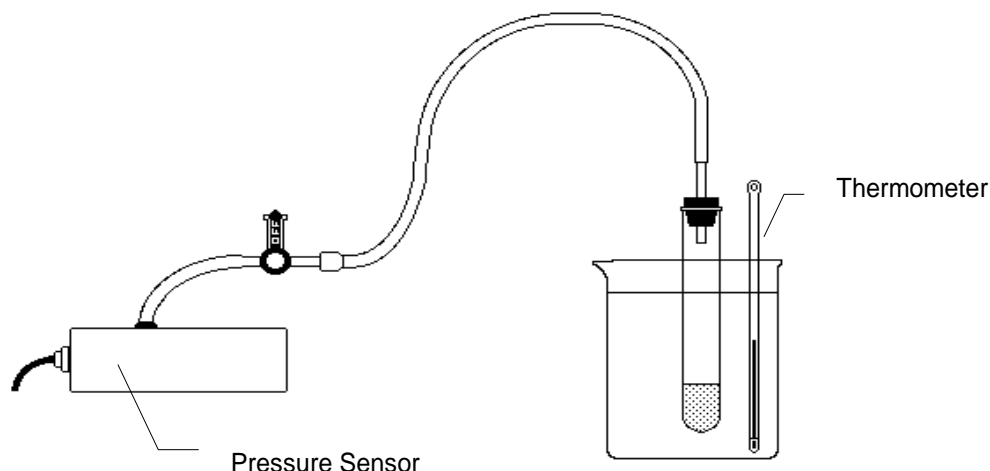

Figure 3. Experimental Set-up with reaction vessel in a water bath maintained at a constant temperature.
9. Prepare a water bath (see figure 3) for the yeast to ensure that the yeast will remain at a constant and controlled temperature when collecting data, steps 11-13. To prepare the water bath combine warm and cool water in a 1-liter beaker until it reaches 38 – 39°C. Fill the beaker with water until the beaker is almost full, but won't spill over when the test tube containing the yeast and sugar is placed in it. Make sure to keep the water temperature constant at about 37°C.